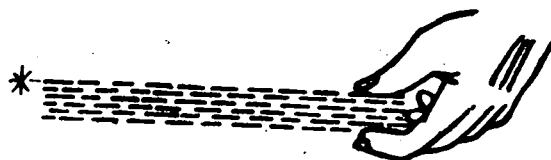

Fig. 3
- Hold the chain on edge (Fig. 3).